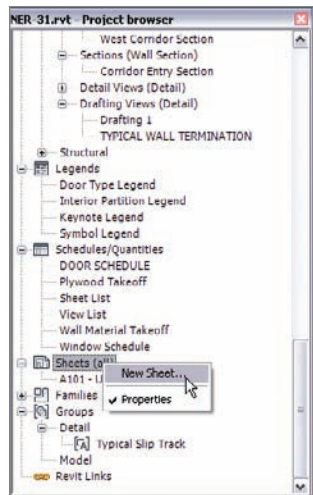

FIGURE 14.1 Selecting a new sheet
1. In the Project Browser, scroll down until you see a category called Sheets, as shown in Figure 14.1.
2. Right-click on Sheets and select New Sheet (see Figure 14.1).